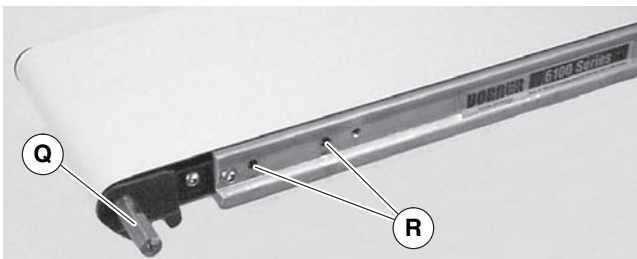

Figure 8
3. Locate drive output shaft (Figure 8, item Q) and remove two (2) screws (R).